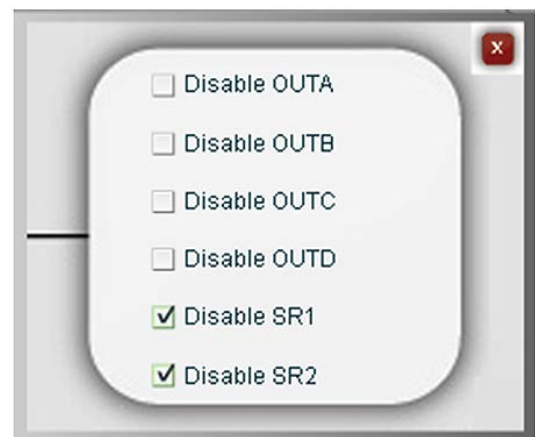

Figure 46. Deep Light Load Response Check Box
- Select the PWM channels to be disabled during the deep light load mode as shown in Figure 46.